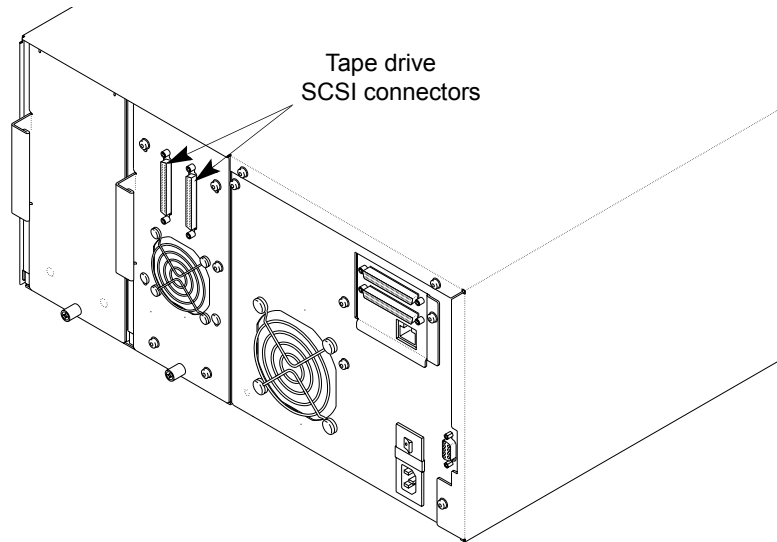
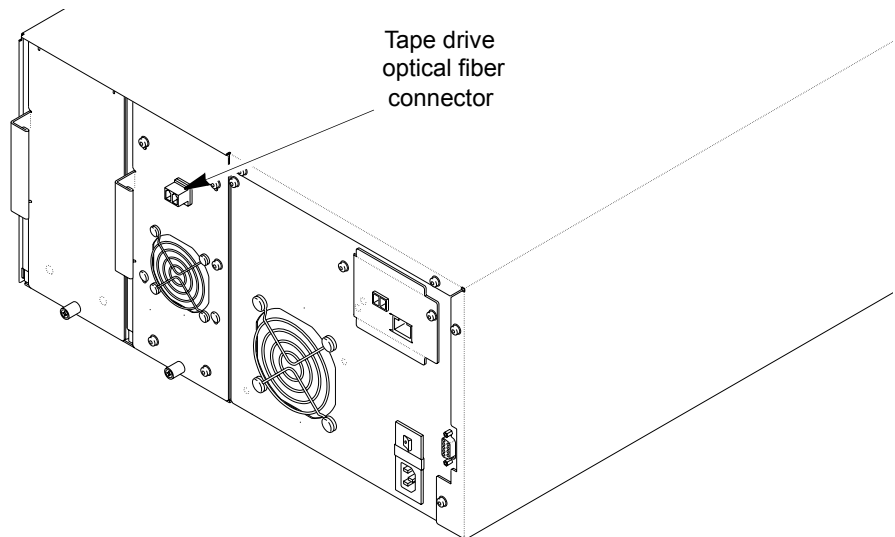

Figure 2 Tape drive SCSI connectors the 221L library
Figure 3 Tape drive Fibre Channel connector on the 221L-FC library
1. Disconnect the cable(s) and terminator, if present, from the back of the tape drive you are replacing. The connectors for the tape drives are accessible from the back panel (see Figure 2 for the 221L connectors and Figure 3 for the 221L-FC connectors).